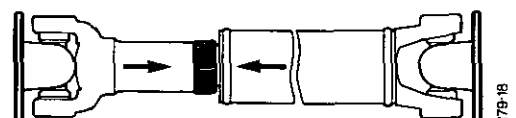

FIGURE 19. INSTALLING THE SLIDING JOINT
10. Align the arrows on shaft and sliding joint, as shown in Figure 19.
- IMPORTANT:** Make sure the universal joints are aligned as shown in Figure 19, or the joints will fail.